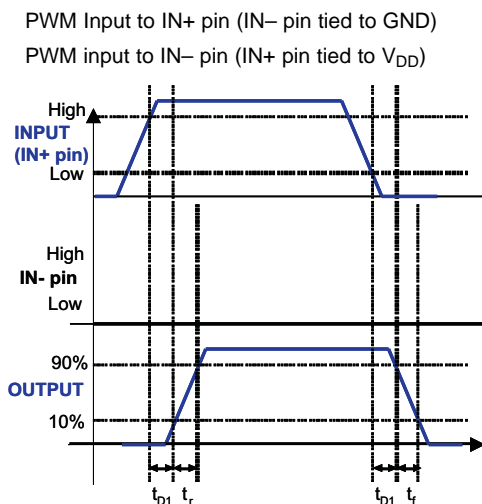
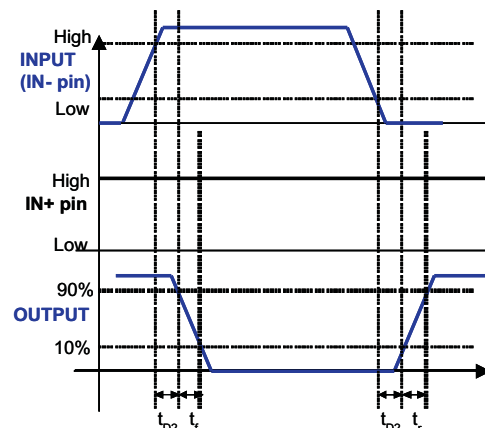
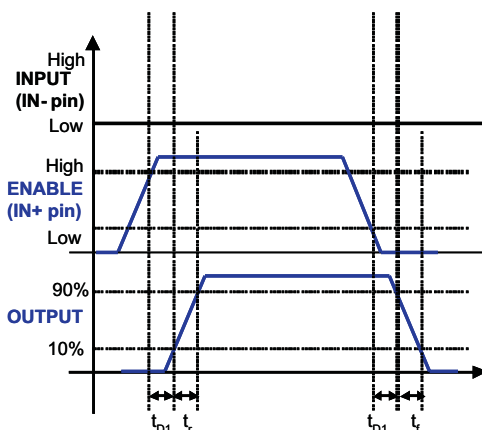
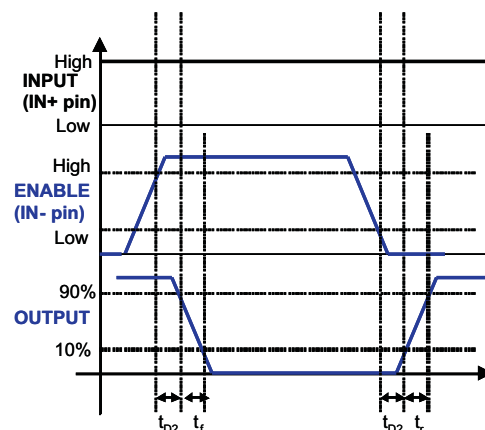

Figure 1. Non-Inverting Configuration
Figure 2. Inverting Configuration
Figure 3. Enable and Disable Function Using IN+ Pin
Figure 4. Enable and Disable Function Using IN– Pin
(1) See timing diagrams in Figure 1, Figure 2, Figure 3 and Figure 4.